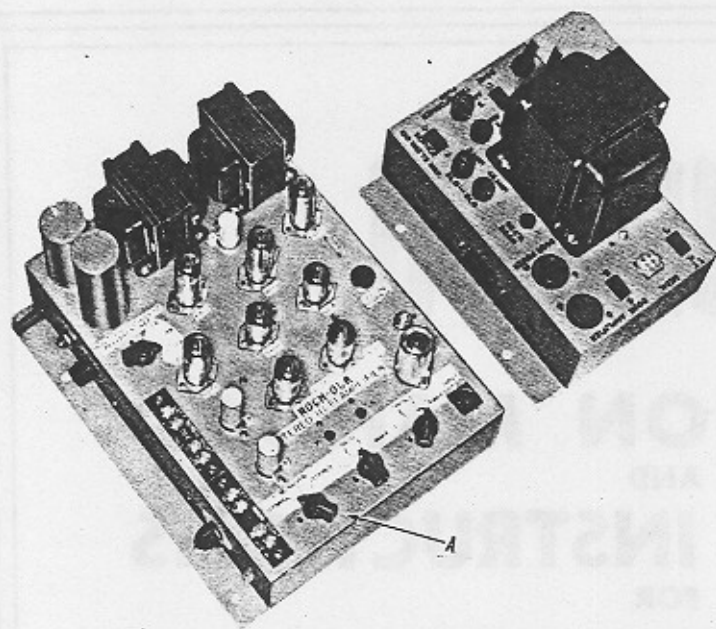

FIG. 2—View of Amplifier and Power Distribution Panel
- B. The "Stereo - Monaural - Hybrid" switch (A-Fig. 2) directs the amplifier output in the following ways: